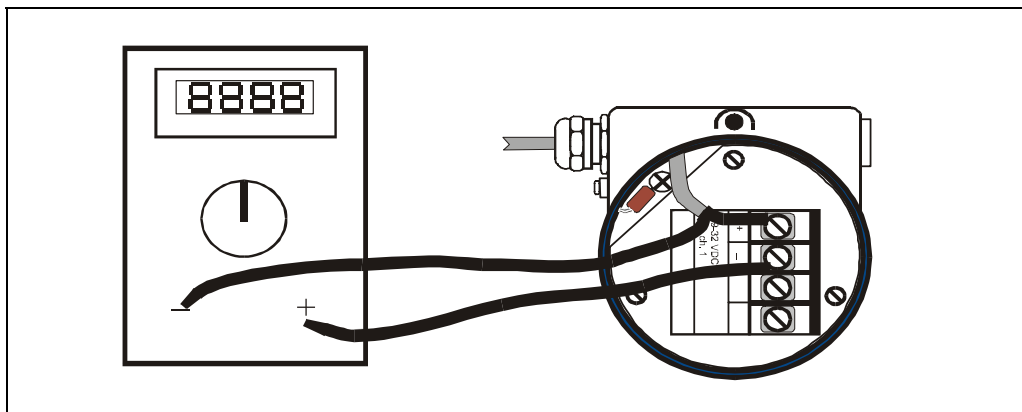

Fig.13
3. Connect your meter as shown below in Figure 13.